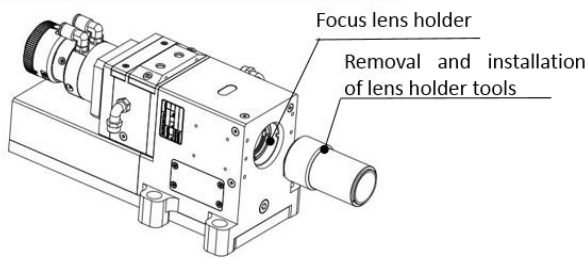

Figure 6.8 — Removal and installation of lens
- As shown in figure 6.8, use a lens-taking tool to remove the focus lens holder;